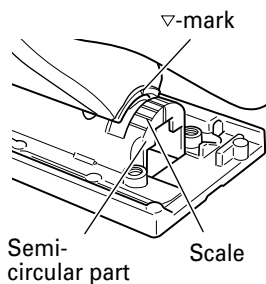

Fig. 22
- (2) Align the scale (from 0 degrees to 45 degrees by 15-degree increments) of the semi-circular part of the base with the [▽] mark on the gear cover. (Fig. 22)